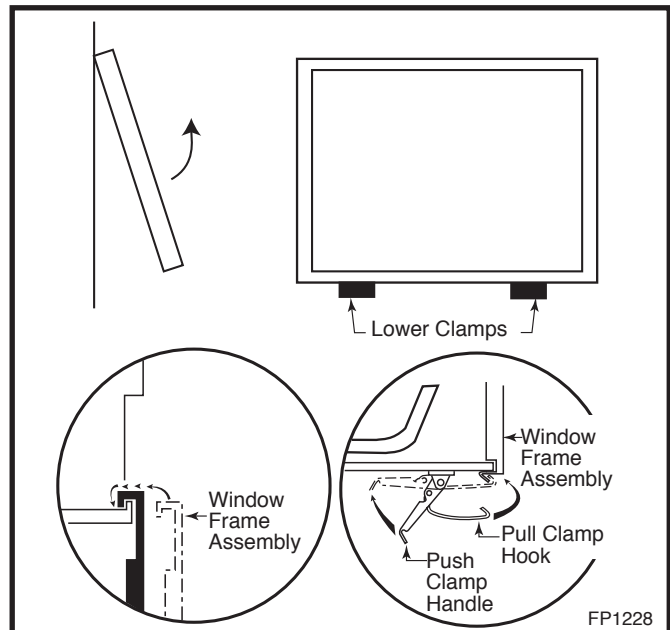

Fig. 40 Window frame assembly removal.
5. Release the two clamps securing the lower edge of the window frame assembly by pulling down on the handles. (Fig. 40)